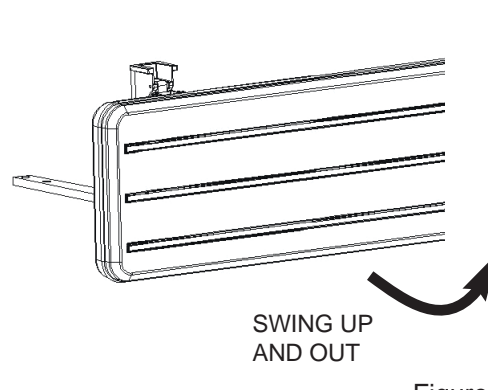
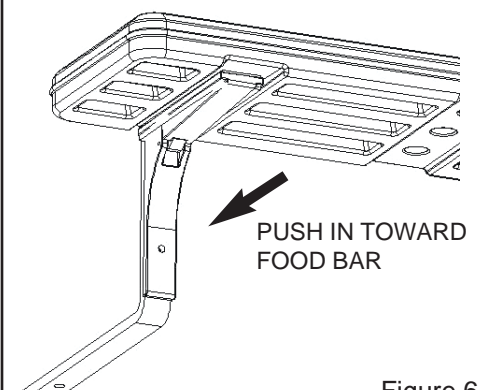

Figure 5
Figure 6
Step 8: To raise Tray Slide for use, grab bottom of the Tray Slide and swing it up and out (see Figure 5) then push in toward food bar to lock (see Figure 6). To lower, pull Tray Slide out and fold down.